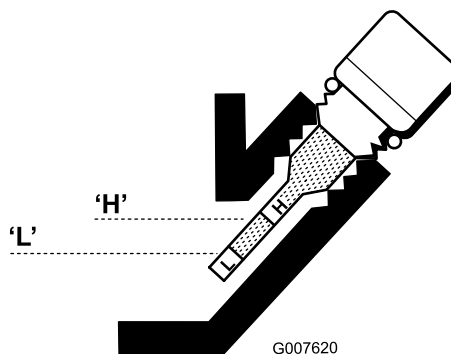

Figure 35
5. Wipe the oil-level gauge clean and insert it into the filler port. Do not screw the gauge into the port. Then remove it and check the level of the oil. If the level is low, add only enough oil to raise the level until it is between the H and L marks on the gauge (Figure 35). Check the level of the oil. Do not overfill.